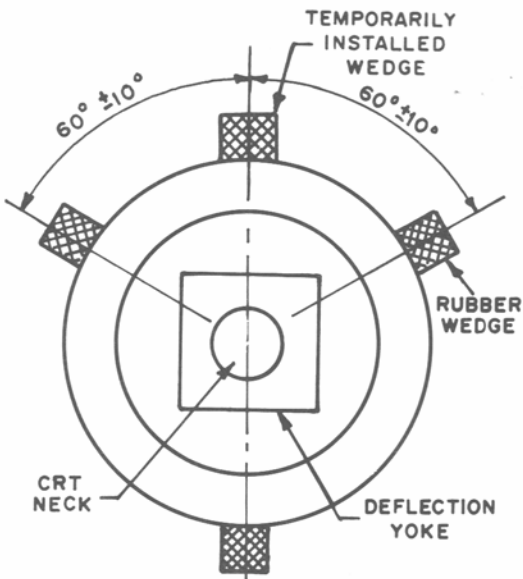

FIGURE 7
**ADJUSTMENT OF DYNAMIC CONVERGENCE (Figures 7,8 and 9)**
3. Insert three rubber wedges to the position as shown in Figure 7 to obtain the best circumference convergence.
4. The position of each rubber wedge is shown in Figure 7.